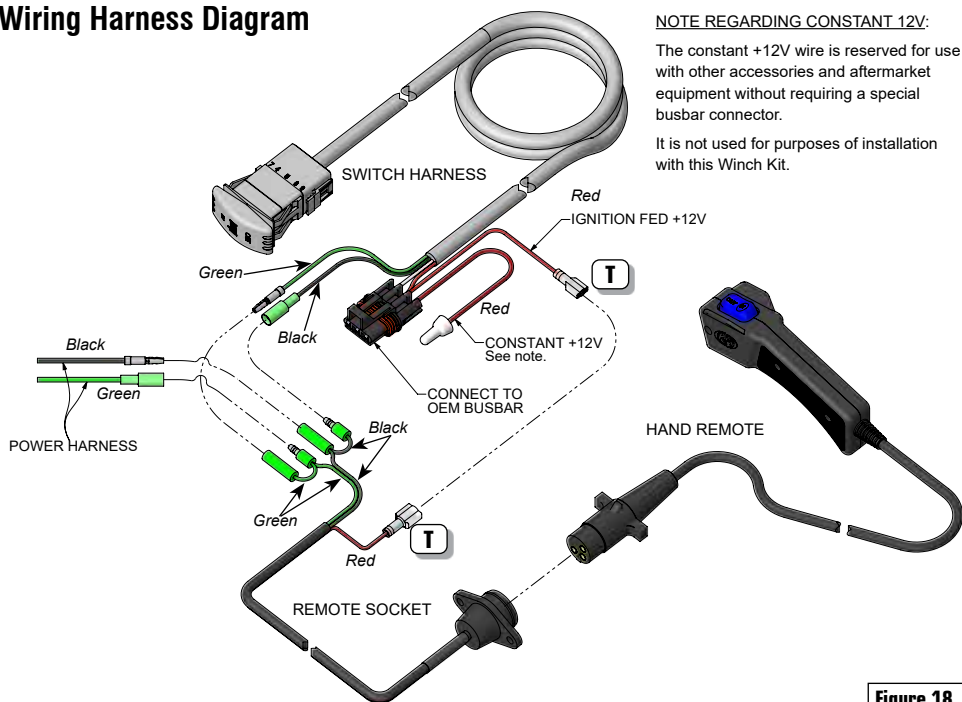

Figure 18.
28. Connect the Power Harness to the OEM Busbar [M] (Figure 17). Connect all remaining wiring routed to the front compartment per diagram in Figure 18.
29. Per Figure 18, connect Switch Harness and Power Harness control wires, Green to Green and Black to Black using the bullet connectors. Pull insulators over completed connections.
30. If using the Hand Remote Socket, connect both the Power Harness and Dash Rocker Switch to the Remote Socket as shown in Figure 18.